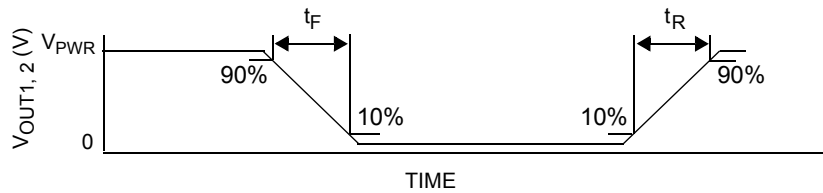

Figure 6. Output Switching Time
27. Rise Time is from the 10% to the 90% level and Fall Time is from the 90% to the 10% level of the output signal with $V_{PWR} = 14\text{ V}$, $R_{LOAD} = 3.0\text{ ohm}$. See Figure 6, page 10.